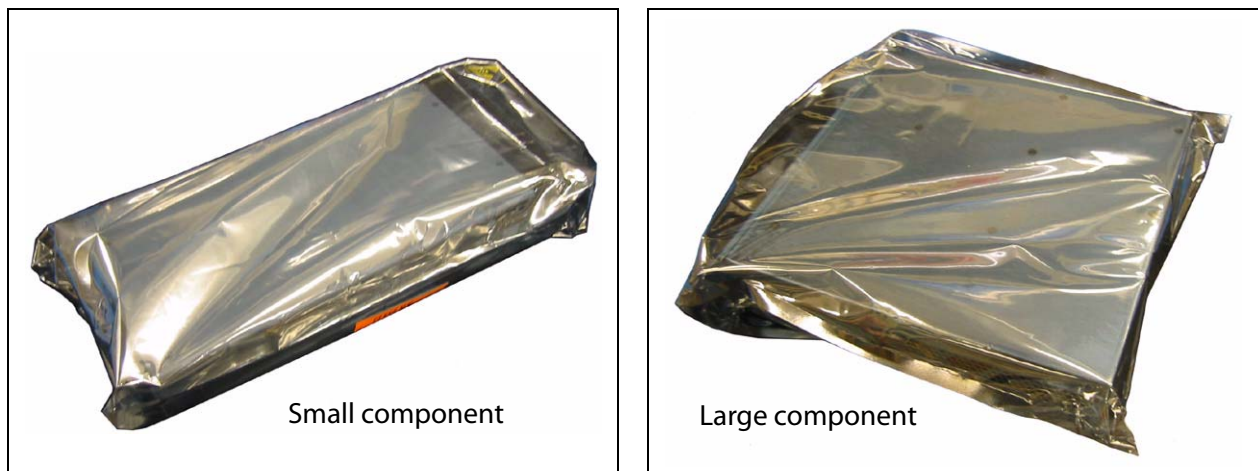

Figure 6-1 Wrap the component in an anti-static bag.
2. Fold the bag snugly around the component and tape it closed (Figure 6-1).